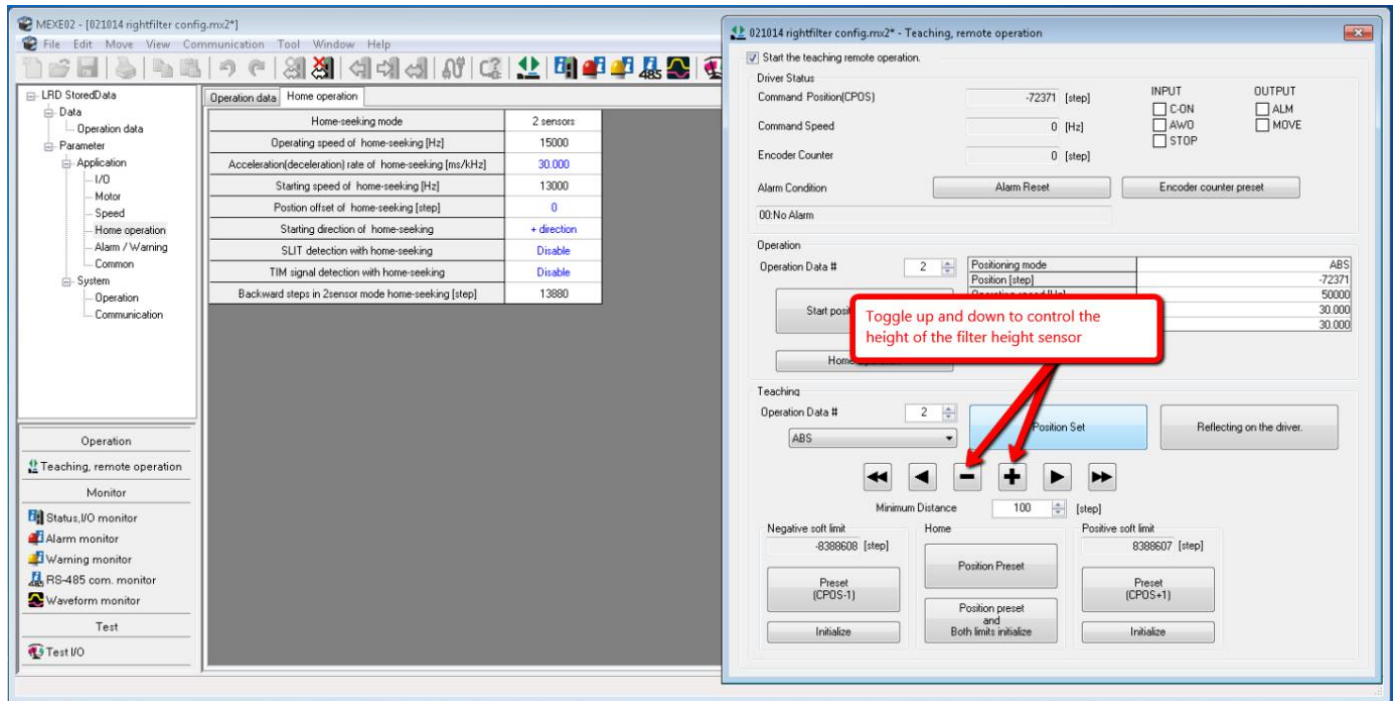

Figure 37 Filter Height Motor
29. Manually trigger (+) and (-) to move the height of the Filter Height Motor as shown in Figure 37.